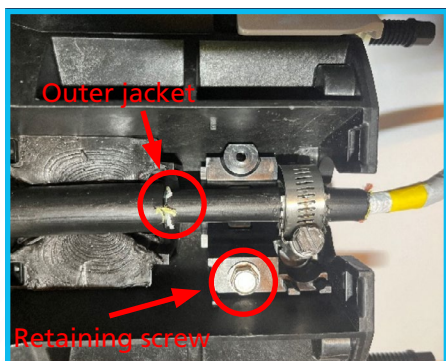

Figure 7.3
4. Fully tighten the retaining screw [figure 7.3]. Ensure the outer jacket cut is positioned just above the removable gel pack, adjust the positioning if required.